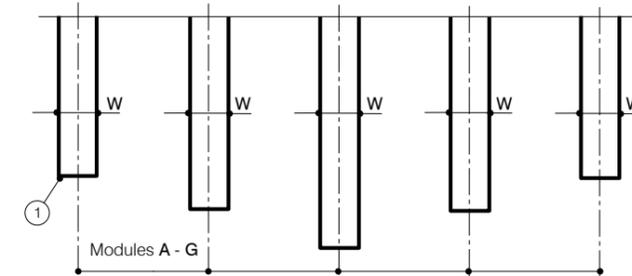

Fig.4 By varying the profile height, stepped or wave formation ceiling sections can also be created.
19 sizes of profile, each referenced according to its width (W) and height (H), see Table 1, are available, as are seven standard module carriers (2), see A to G, providing multiple choice of profile width and height and gap width. By selecting a preferred module and profile width, but varying the profile height, stepped or wave formation ceiling sections like that seen in Fig. 4 can also be created.